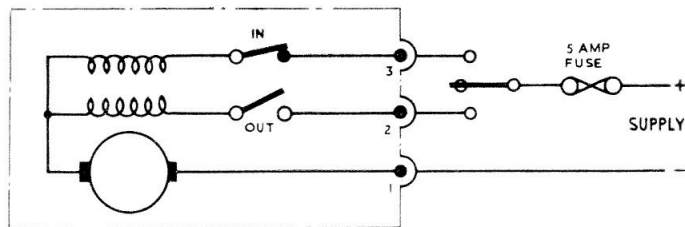

Fig. 2. Circuit diagram
3. The motor is rated at 0.008 h.p. at 5,800 r.p.m., and the field coils also control the operation of the brake. The drive from the motor is taken to the piston through an epicyclic gear train, with a reduction of 586:1. The travel of the piston is controlled at its extreme positions by two limit switches, operated by a trip lever and connected as shown in the circuit diagram in fig. 2. They are of the make-and-break type, and are fitted with silver contacts.